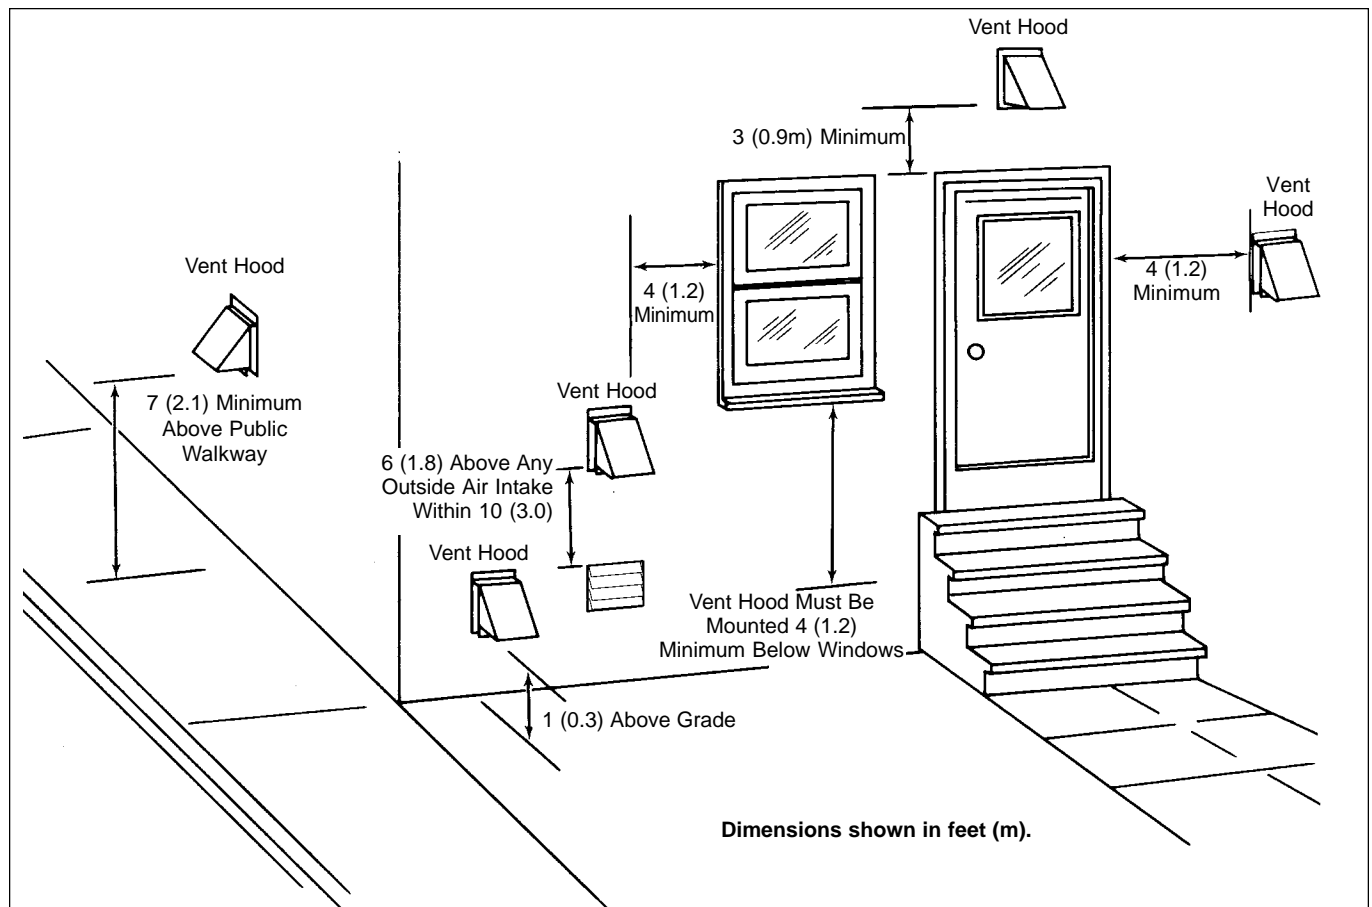

Figure 1. Vent hood locations.
12. Laars' vent pipe reducers to be installed as shown in Figure 1.
13. Allow for a minimum of 18" (457mm) vertical rise off the top of the appliance before the vent makes a 90 degree elbow to the horizontal (see Figure 1).